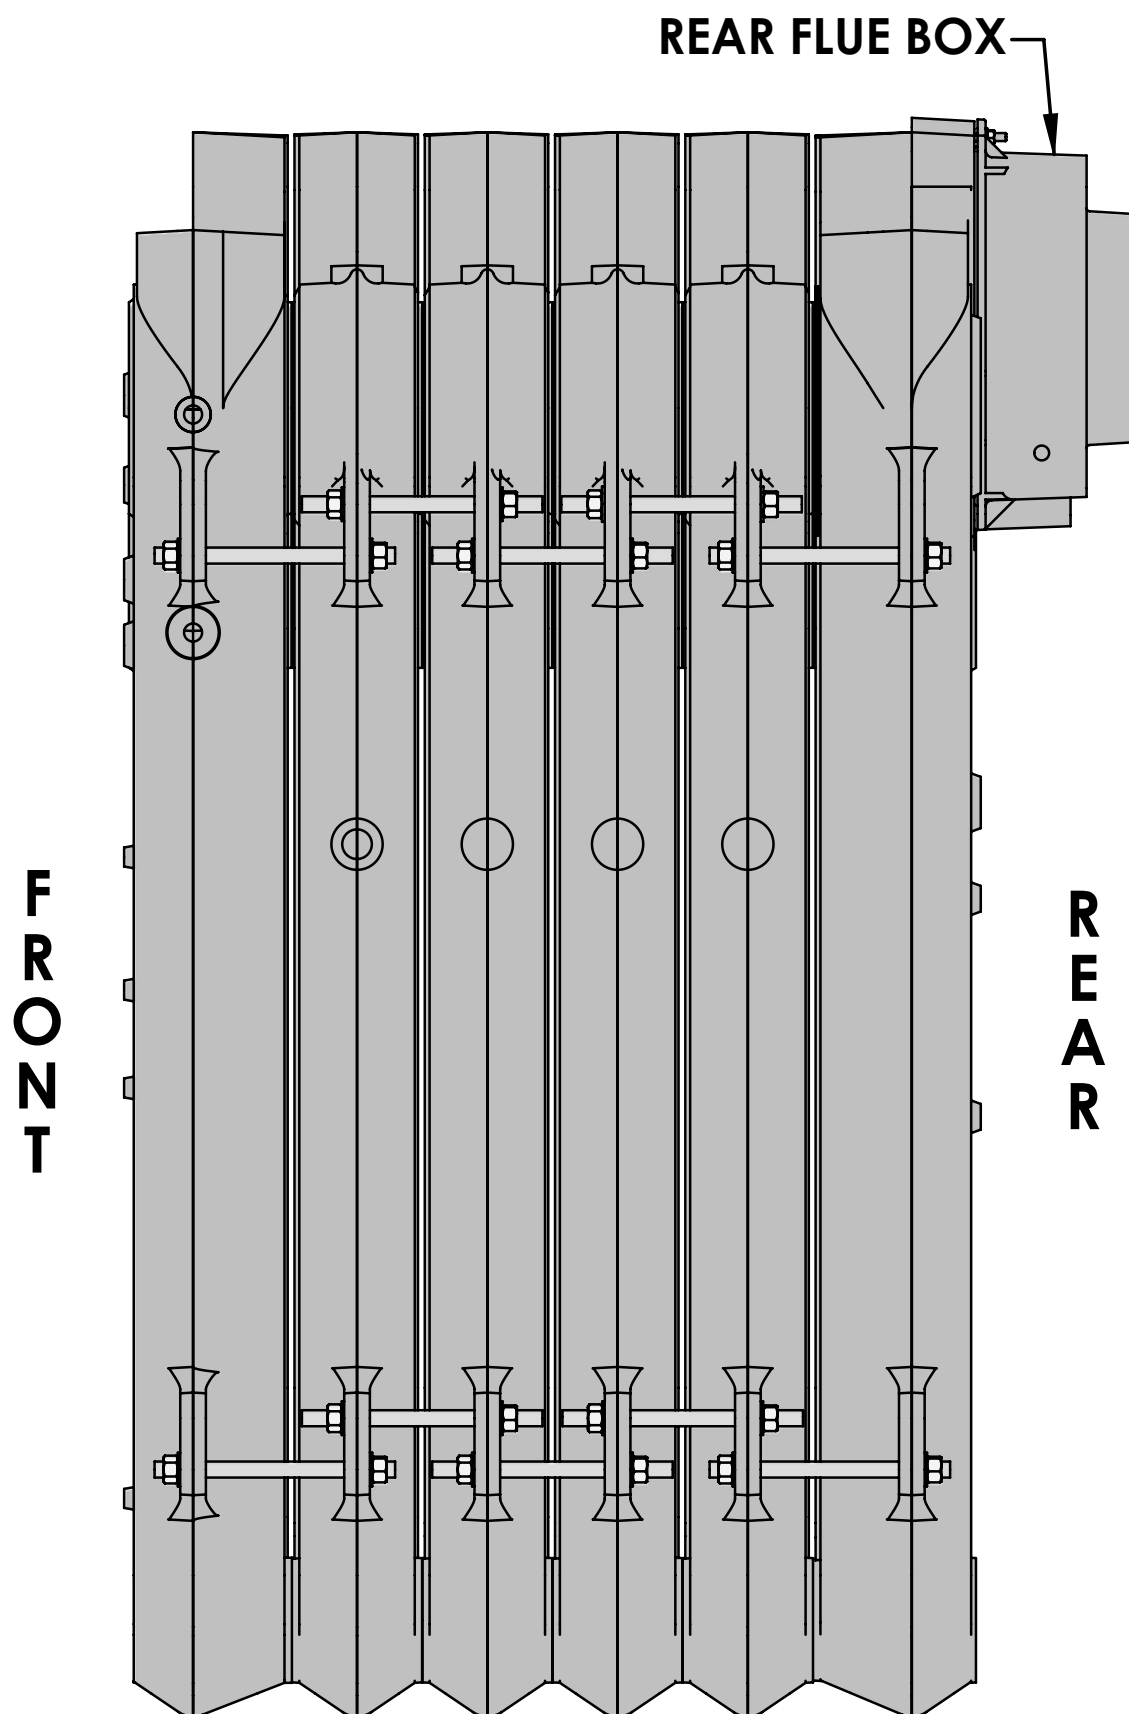

Figure 2.5: Series LC™ Boiler Assembly – Right Side View
14. Insert a tie rod with one nut and washer applied into each of the four tie rod lugs. See Figures 2.5 and 2.6.